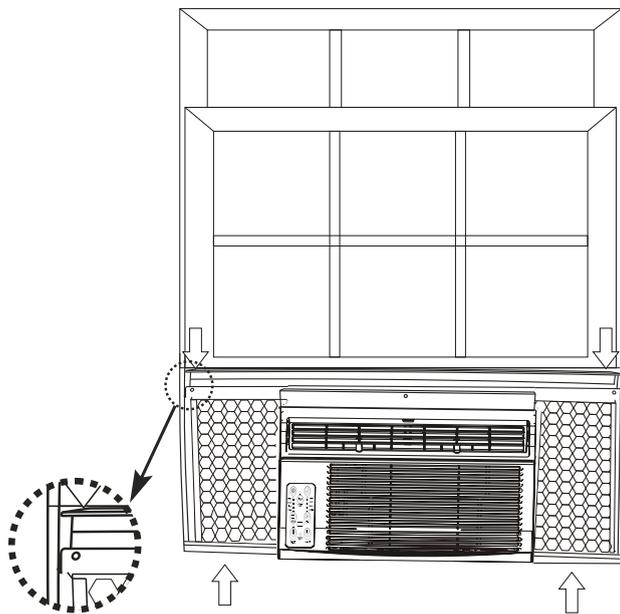

**Fig.13**
Step 3. Slide the R1 insulation panel into the side curtain, the side with pattern should facing the indoor side.(Fig.13).